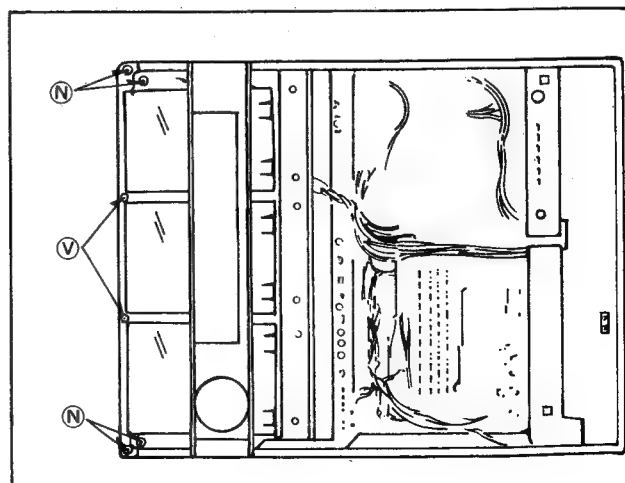
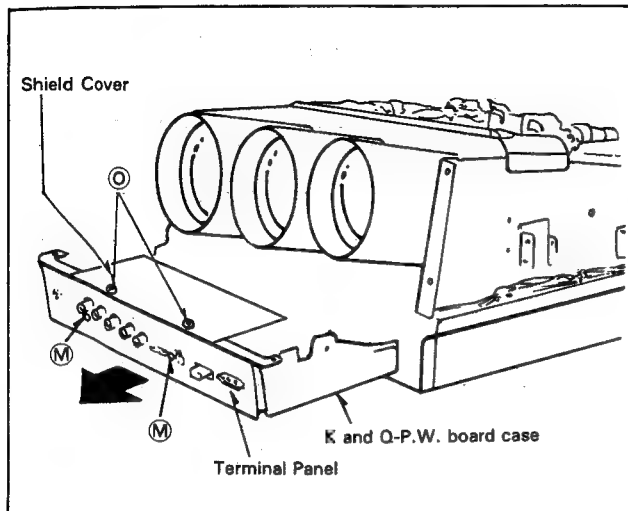

Fig. 11
Fig. 12
- 2) Remove 4 screws ⑮ as shown in Fig. 11.
- 3) Remove 2 screws (M), and remove the terminal panel as shown in Fig. 12.
- 4) Remove 2 screws (O), and remove the shield cover as shown in Fig. 12.
- 5) Remove 2 screws (V), and carefully slide the K and Q-P.W. board case forward as indicated by the arrow in Fig. 11 and Fig. 12.